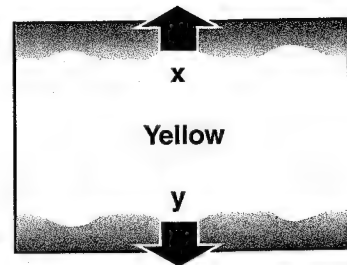

Fig.13-2
- 2) If the un-uniform color appears on the top or bottom of the screen as shown in **Fig.13-2**, loosen a screw "B" with the hex driver (**Fig.12**) and adjust the 2 screws "D" to make color uniformity in yellow.